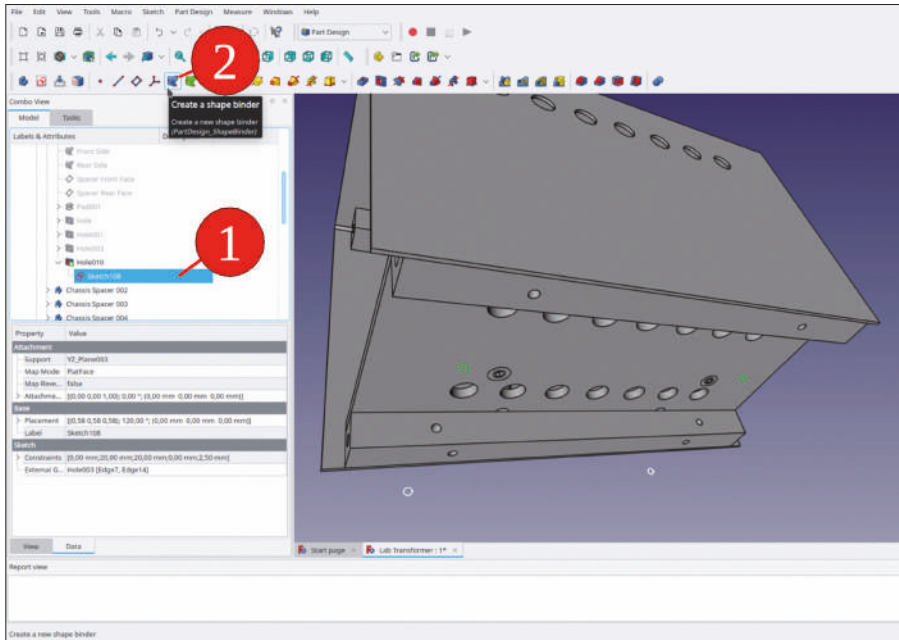

Figure 9-133
42. In the 3D view, navigate to the last design state of 'Chassis Spacer 001' (Hole...), and expand that to expose the sketch. Mark the sketch with a click (Figure 9-133).